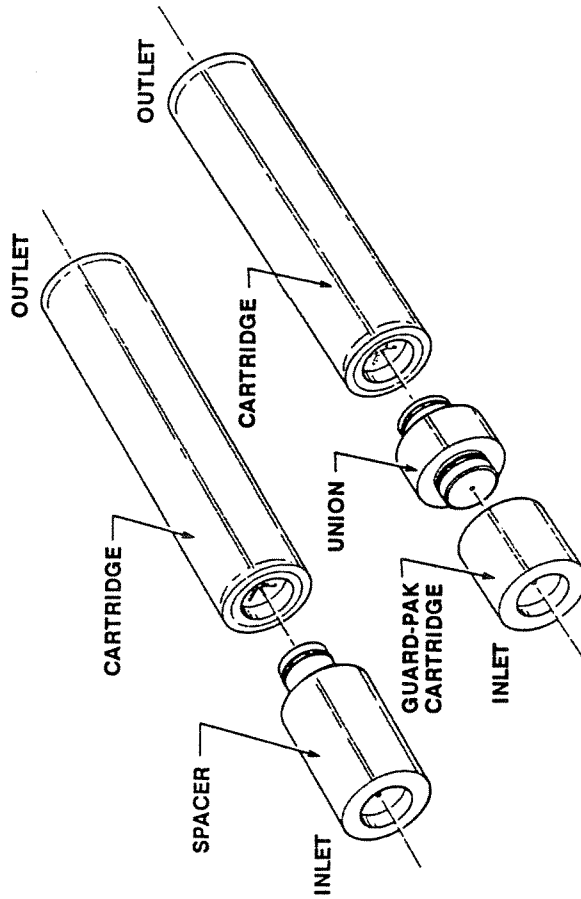

FIGURE 3-4 RCM 25x10 CARTRIDGES
3. Connect the cartridge (Figure 3-4) to the spacer (or to the union and Guard-Pak cartridge) and insert into the RCM chamber. Be sure that the spacer or Guard-Pak cartridge is closest to the inlet.
5. Attach the spacer (or Guard-Pak cartridge and union) to the new cartridge (Figure 3-4) and insert it into the RCM chamber. Be sure that the Guard-Pak cartridge is closest to the inlet.
7. Fill a 20-ml syringe with water, insert the end into the fill port (Figure 3-4), and replace the lost fluid.